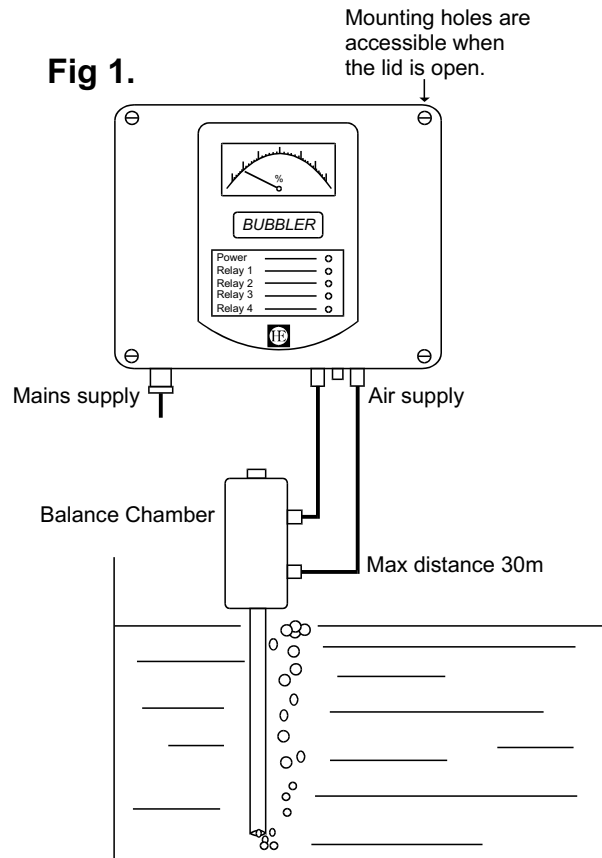

Fig 2.
7. In the unlikely event of the dip tube becoming blocked provision has been made for manual cleaning. This is achieved by unscrewing the bolt on the top of the balance chamber and "rodding" the tube see fig 2.